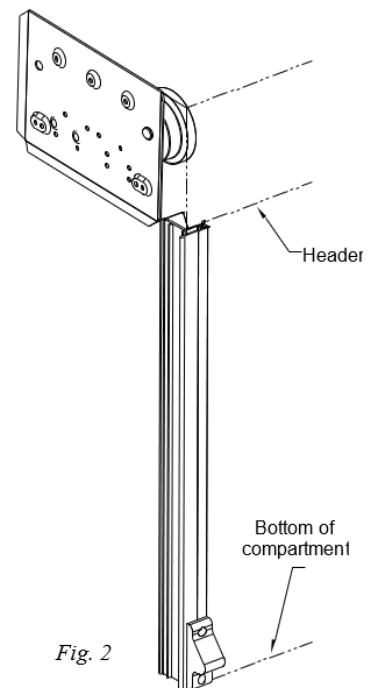
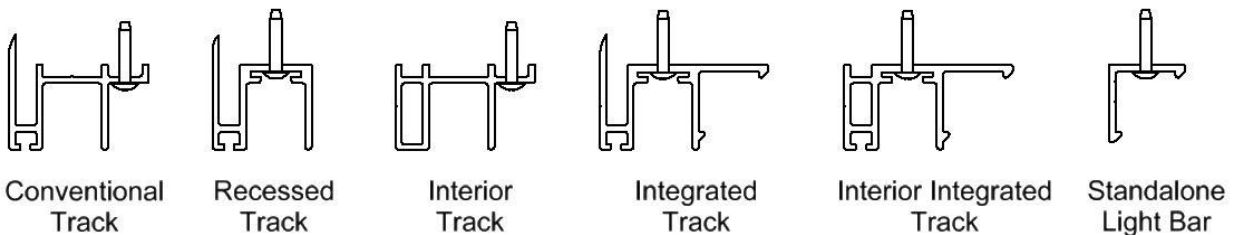

Fig. 2
Fig. 2a
- Position the track between the header and the bottom of the compartment. Make sure the bottom of the track touches the bottom of the compartment (Fig 2). The finishing flange should be flush against the skin of the vehicle. Optional track configurations are shown below in Fig. 2a.